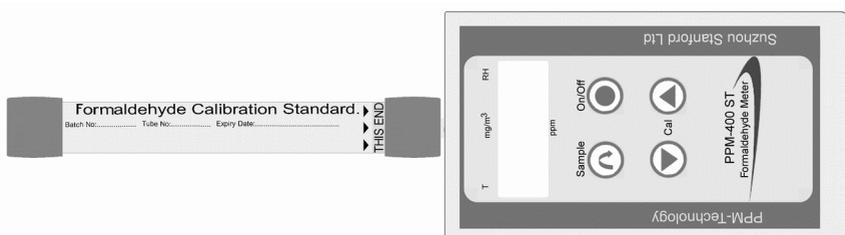

Fig 1.2 PPM-400ST Formaldehyde Meter with Calibration Standard Inserted
3. Insert the instrument nozzle into the sampling end of the Calibration Standard (refer to *fig 1.2*). To ensure a good seal around the instrument nozzle apply gentle pressure to Calibration Standard against the instrument when taking a sample.
3. Insert the instrument nozzle into the sampling end of the Calibration Standard (refer to *fig 1.2*). To